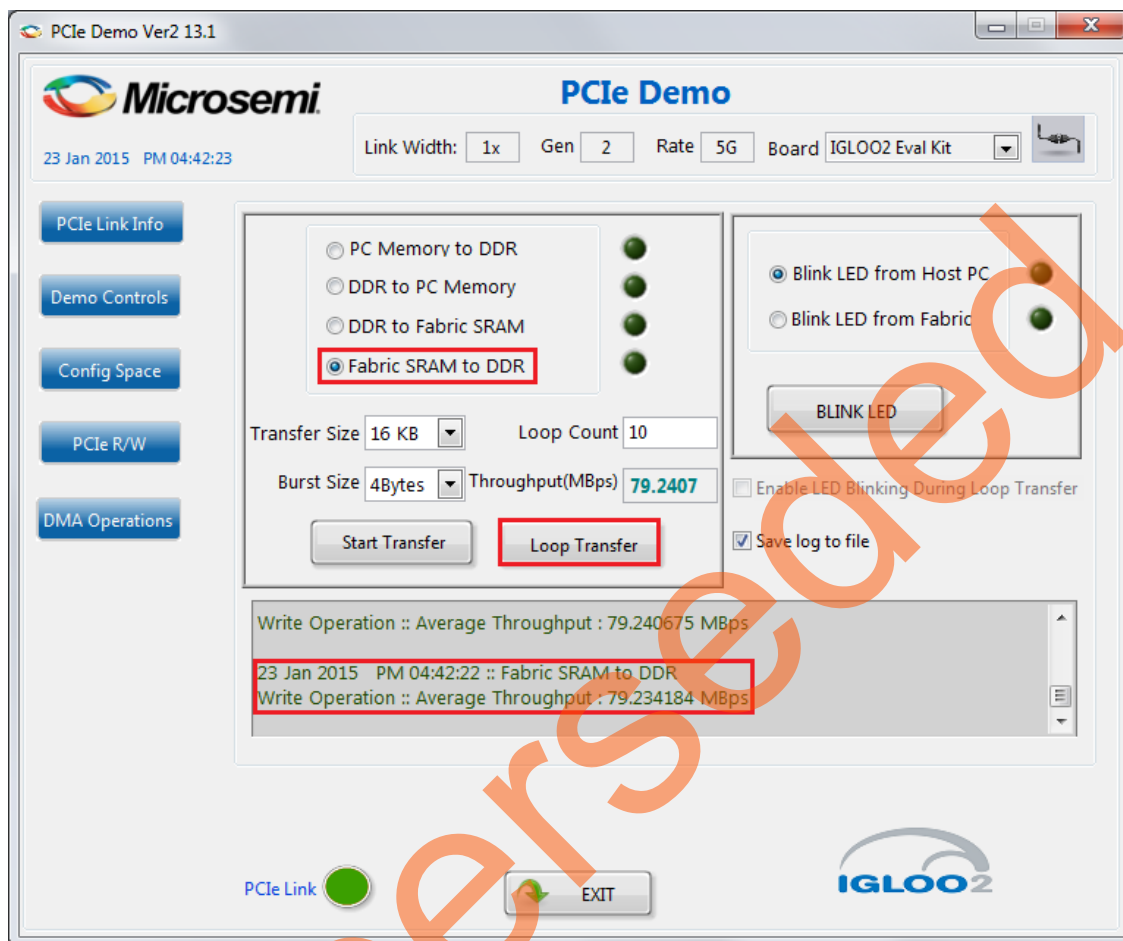

Figure 30 • DDR to LSRAM DMA Loop Transfer
23. Select the type of DMA transfer as **Fabric SRAM to DDR**. Select any **Transfer Size** and click **Loop Transfer** as shown in Figure 30.